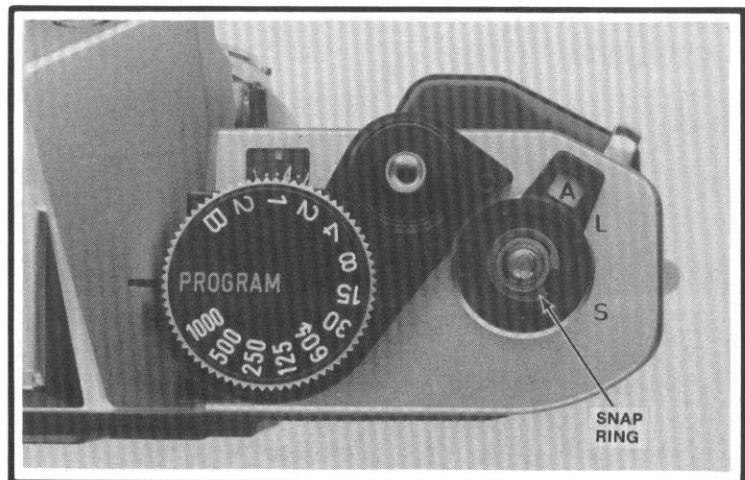

Figure 11
11. Remove the SL Lever by taking off its snap ring, Fig. 11. In newer models, there's a wave washer under the SL lever. Also, in newer cameras, there's a tight-fitting spacer over the shaft of the SL Wiper. Remove both the wave washer and the spacer.